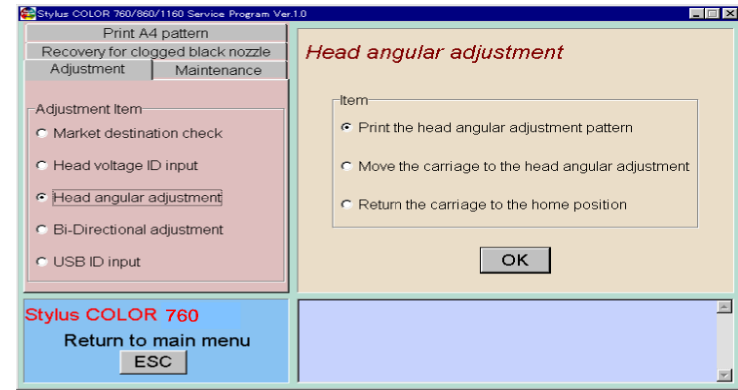

Figure 5-17. Select the Head angular adjustment
- Input the 12 digits code of the Head Voltage ID in the above menu. In case you input an incorrect character or symbol in this menu, this program detects it automatically and displays error message in the bottom column. Figure 5-17 shows you the one of the error message.